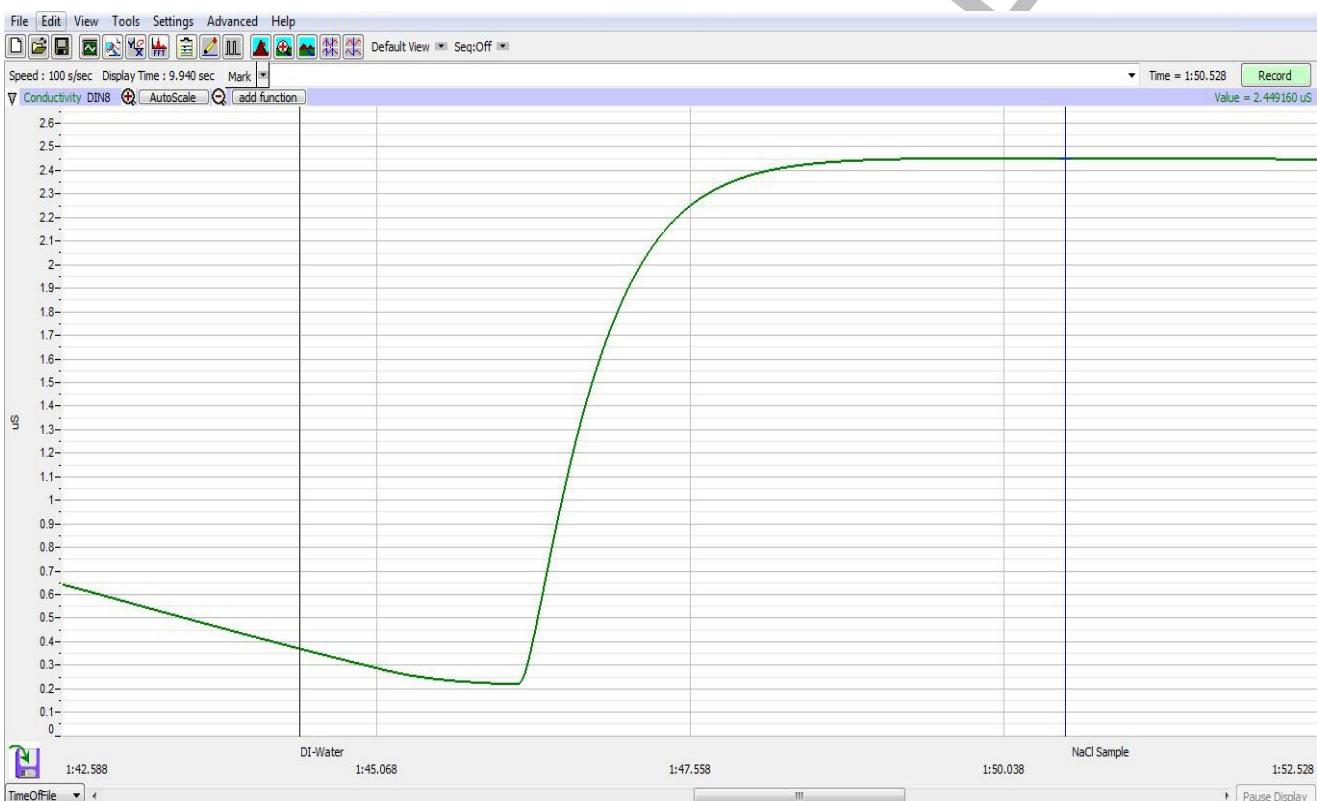

Figure HK-2-L1: Recording showing the conductivity of a solution in the Main window.
7. Press the Enter key on the keyboard to mark the recording when you place the dialysis tubing in the beaker. The recording should look like Figure HK-2-L1.